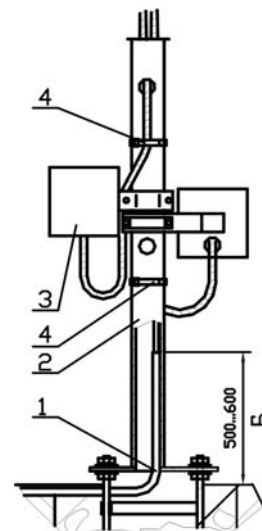

Fig.10.5
10.3.4 After setting of the mortar lead cable 1 (Fig. 10.5) for connecting with concentrator or CIU through the lower hole of post 2 and lead it out through the upper hole; fix the posts to the supports using nuts as per Fig. 10.5. Using nuts and a plumb adjust the vertical position of the posts and tighten the nuts.
Note. If an armoured cable or a cable with thick sheath is used that prevents leading the cables through a post from TU (RU) 3, remove the armour or make the sheath thinner above portion “Б”(Fig. 10.5) to ensure unobstructed leading the cables through the post.
10.3.5 Install UK-ST1 (UK2-ST1) holders onto the posts in the locations of TUs (RUs) as shown in Fig.10.5.
10.3.16 To eliminate swinging of cables inside metallic hoses under wind use clamps 4 (Fig. 10.5) from the contents of delivery to attach the outer portions of cables to the post at the lengths from **the units** to the holes in the posts.